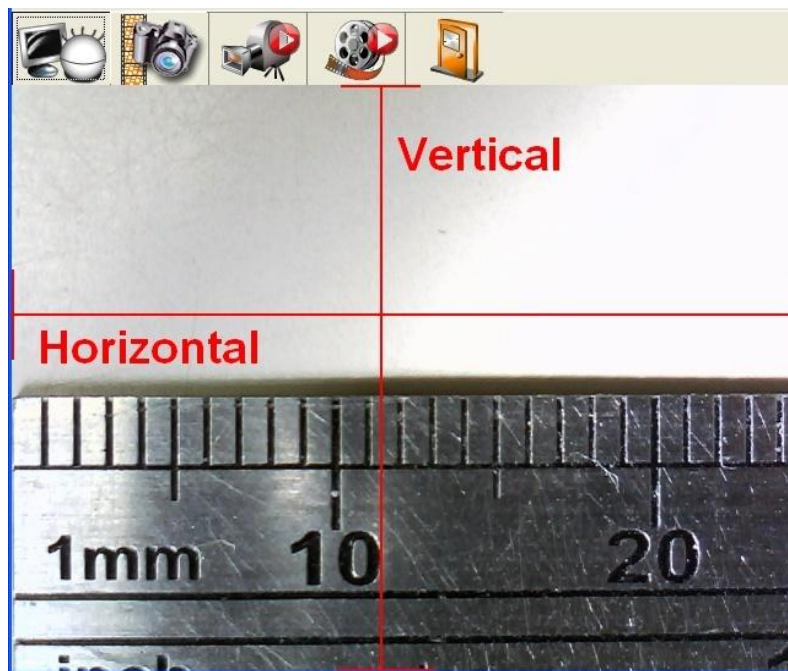

Fig.5-33 Horizontal and vertical measurement range
- Calculate the range shown in Fig.5-33.